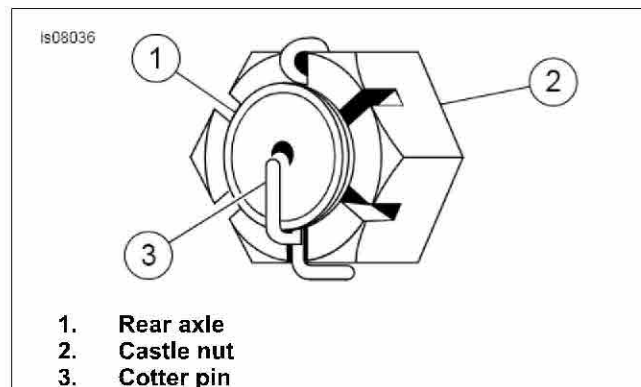
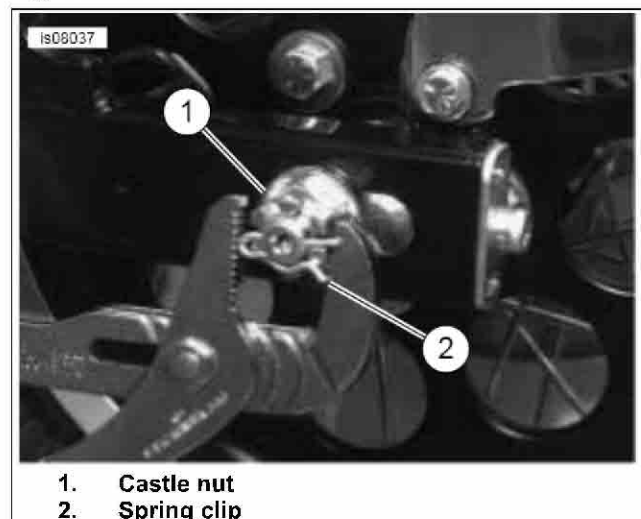

Figure 1. Castle Nut and Cotter Pin - Installed - XL Models
Figure 2. Castle Nut and Spring Clip - Installed - Big Twin Models
6. See Figure 1 and Figure 2. Install cotter pin or spring clip as shown (always use the kit's cotter pin, Part No. 511 on XL models). When installing cotter pin bend the cotter pin ends as shown in Figure 1. When installing spring clip (using a slip-joint pliers to press the clip in place) make sure the curved leg of the clip wraps around the outside diameter surface of the axle shaft as shown in Figure 2.